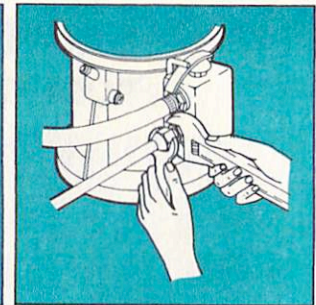

Figure 4
**8.** Connect water supply line to water valve using the 3/8" brass flare nut provided. (See Fig. 4). **CAUTION:** Always secure the brass fitting in the valve with a wrench while tightening flare nut to prevent threads being